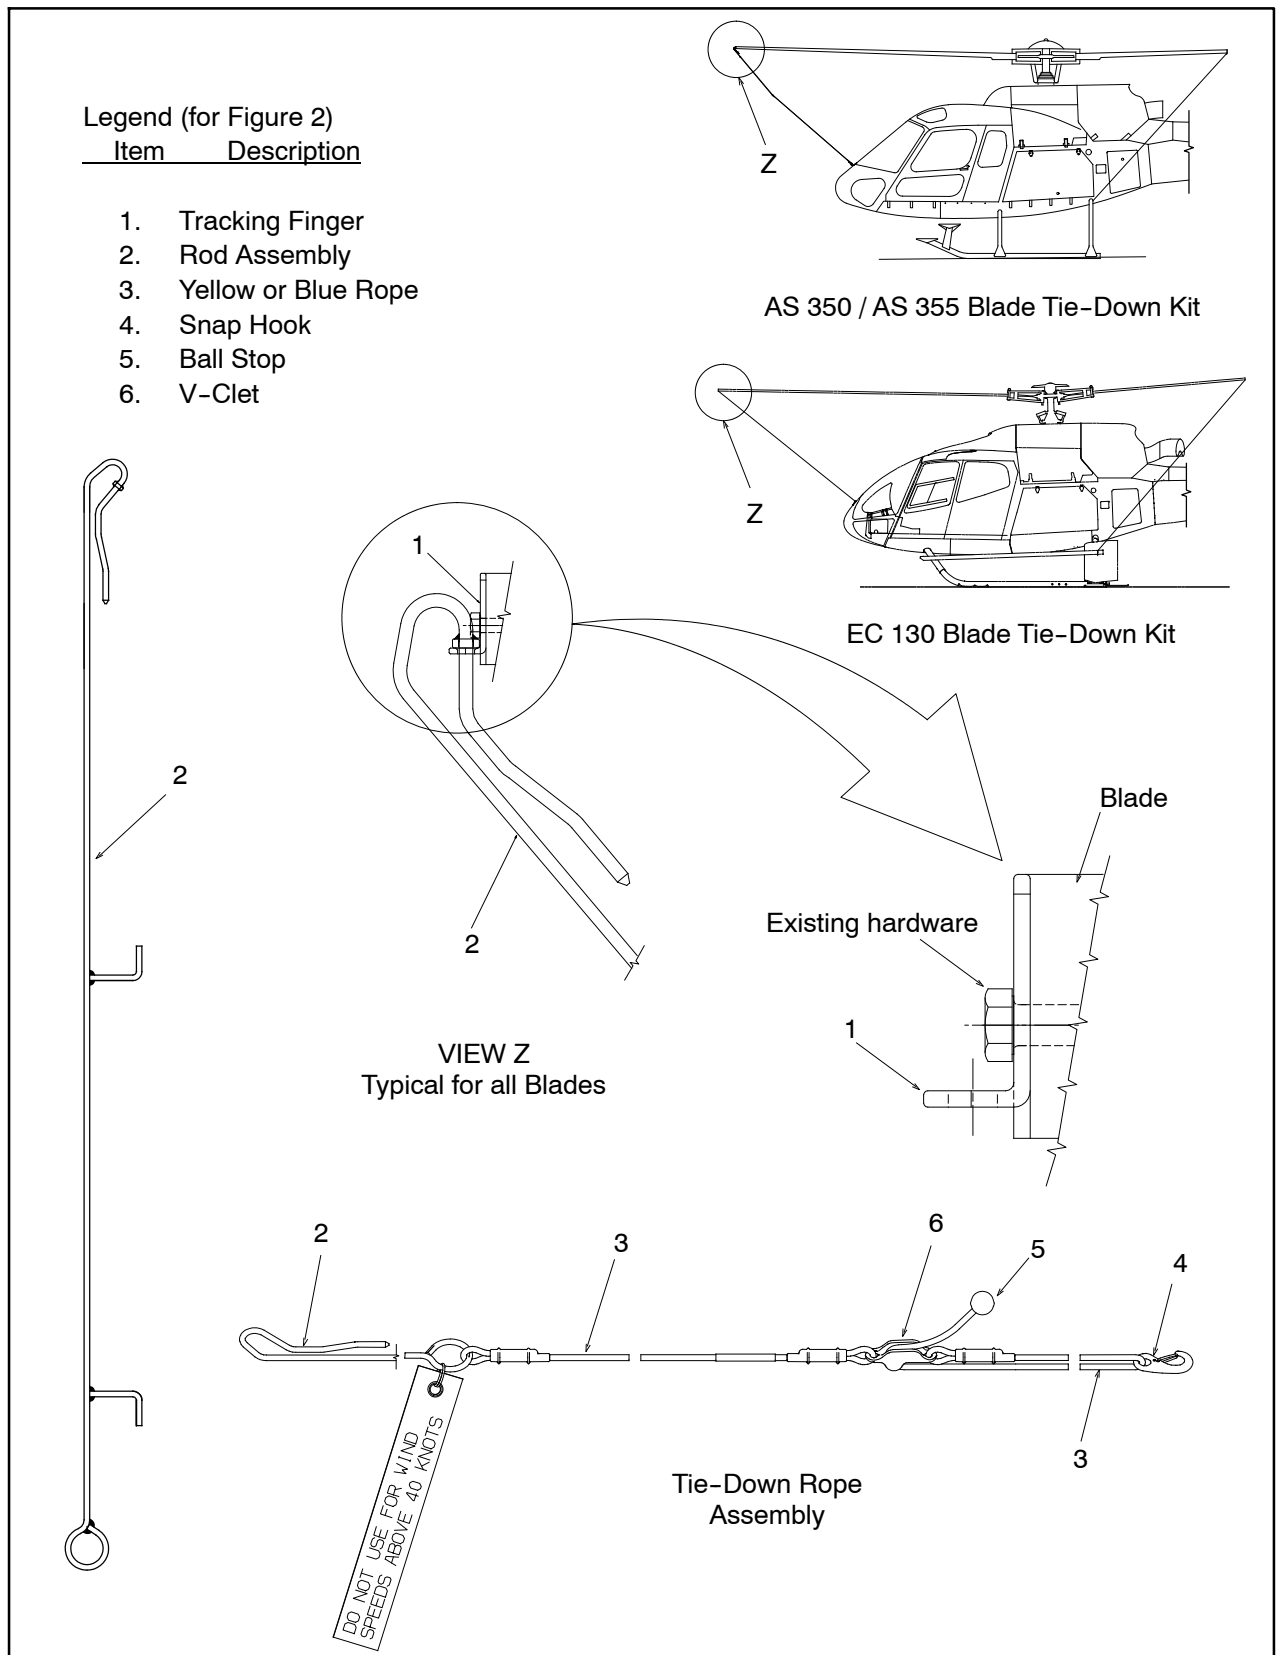

Figure 2 AS 350 / AS 355 / EC 130 Details
1. Align blade with nose of helicopter. Loosen the rope on the yellow tie-down rope assembly. Slide the rod assembly through the hole in the blade tracking fingers. Care must be taken to avoid damaging the upper surface of the blade tip. Clip rope to forward bracket. Refer to Figure 3 for the AS 350 / 355 and Figure 6 for the EC 130. Tighten rope through the v-clet. Refer to Figure 2.
2. Loosen the ropes on two remaining blue tie-down rope assemblies. Slide the rod assembly through the hole in one of the two remaining blade tracking fingers. Care must be taken to avoid damaging the upper surface of the blade tip. Clip the rope to the aft bracket. Follow same procedure for remaining blades. Refer to Figure 4 for the AS 350 / 355 and Figure 7 for the EC 130. Tighten rope through the v-clet. Refer to Figure 2.